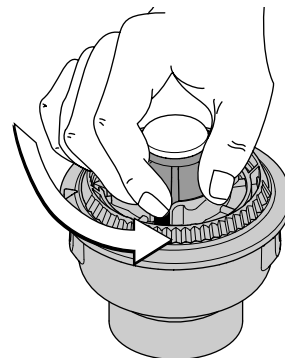

Fig. 54
- Hold the outer spool, and unscrew the bump knob counterclockwise (Fig. 54).